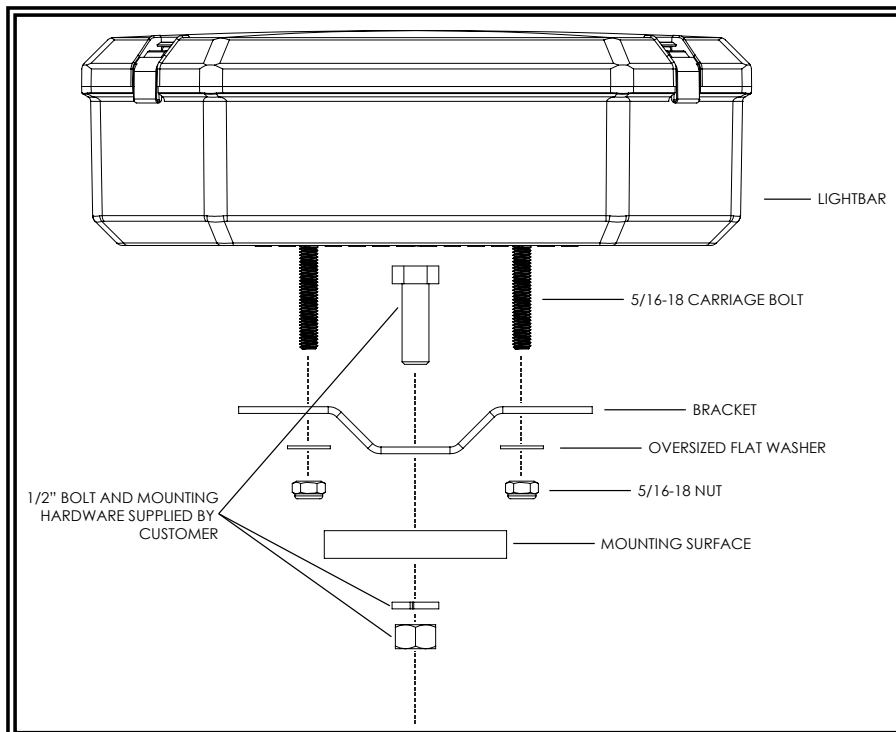

FIGURE 3
1. Insert the four (4) 5/16"-18 carriage bolts in the channels on the under side of the light bar and loosely attach the mounting brackets.
3. Secure the brackets to the lightbar with the supplied washers and nuts as shown in FIGURE 3.